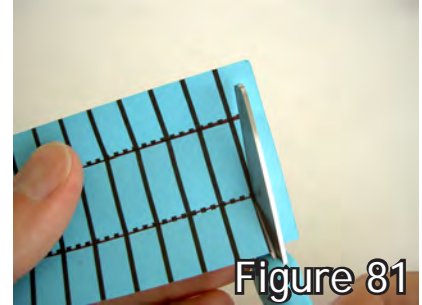

Figure 81
3. Cut along the solid black lines to cut out two brackets. (fig. 81)